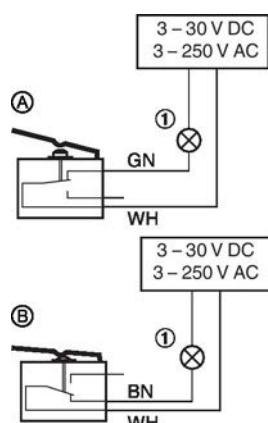

Fig. 47: Wiring of limit switches, example
- The limit switches must be connected according to the wiring example Fig. 47